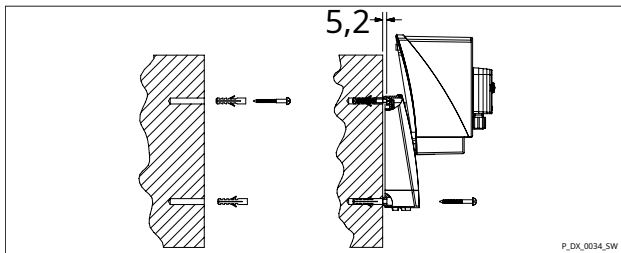

Fig. 6: Wall-mounted, parked position - dimensions in mm (not true to scale).
- ➔ Drill the Ø 8 mm holes and position the raw-plugs supplied - see Fig. 6.